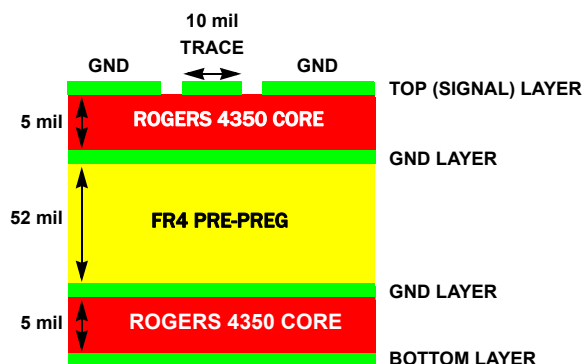

FIGURE 10. FOUR LAYER BOARD STACK-UP
- A four layer PCB board: Signal (top layer), Thin-Dielectric, GND (2nd layer), Thick-Dielectric, GND (3rd layer), Thin-Dielectric, Signal (Bottom layer) is required to achieve 50Ω traces. The top and bottom thin-dielectric are Nelco 4000-13 or Rogers 4350 core type material. The center thick-dielectric is FR4 pre-preg material. Figure 10 illustrates the material and sequencing of the layers. The dimensions called out are those required to achieve 50Ω microstrip for the signal traces.